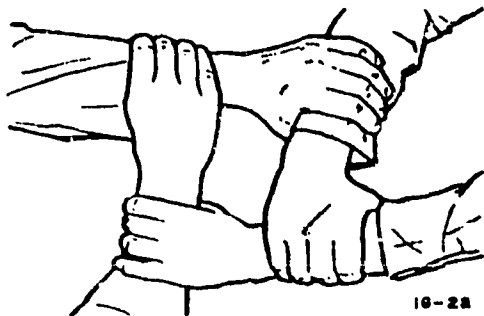

Figure 1-13. Two-hand carry (front view).
b. You both slide your arms under the casualty—one arm goes under the thighs and the other under the arms and behind the back. As you reach through, you and your assistant grasp wrists as shown in figure 1-13.